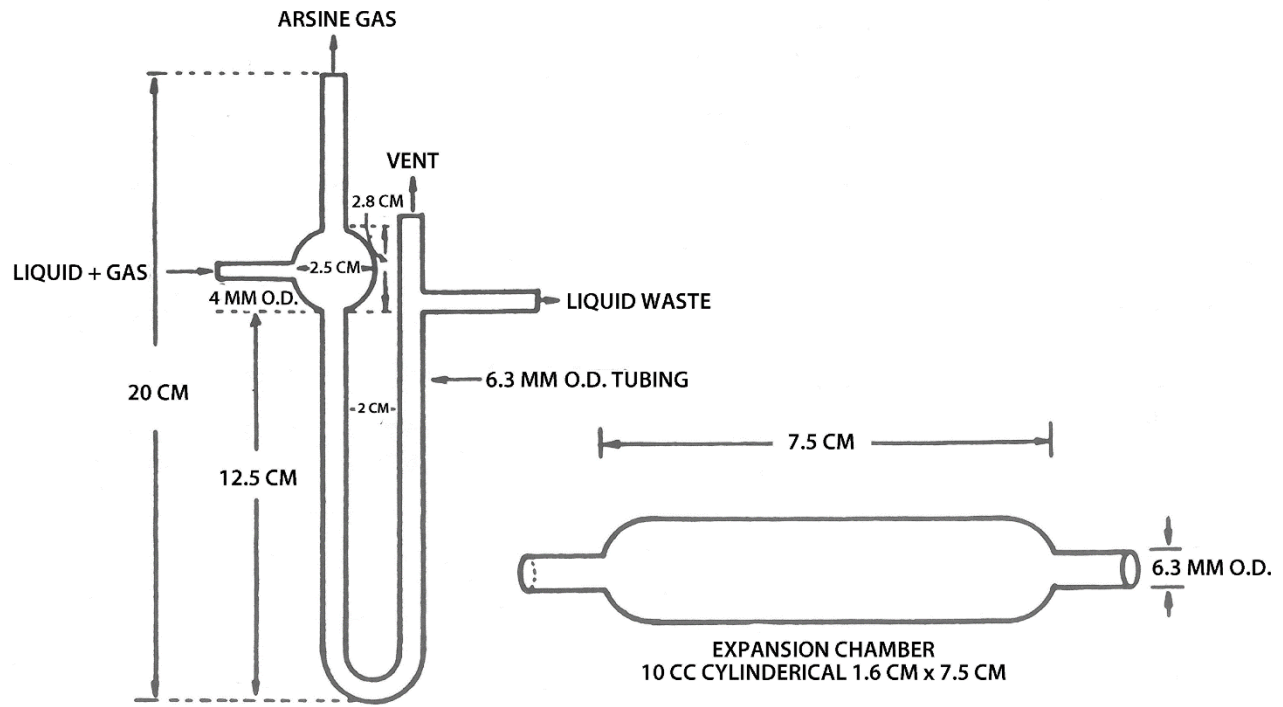

FIGURE 2. Gas-Liquid Separator and Expansion Chamber.
5. Arsine generator: proportioning pump with flow-rated pump tubes and 1.5-mm ID x 3-mm OD manifold mixing coils, 5-turn and 20-turn, 1.5-mm ID x 3.5-mm OD glass "T" connectors; gas-liquid separator and expansion chamber (Figure 2); 1 m of 1/4" OD PTFE tubing; three PTFE 1/4" ID Swagelok fittings; and rotometer (100 to 900 mL/min).
NOTE: The gaseous arsines formed in the arsine generator are first separated from liquid solution using the gas-liquid separator (Figure 2) and then transferred by argon carrier gas through PTFE tubing to the heated quartz furnace.